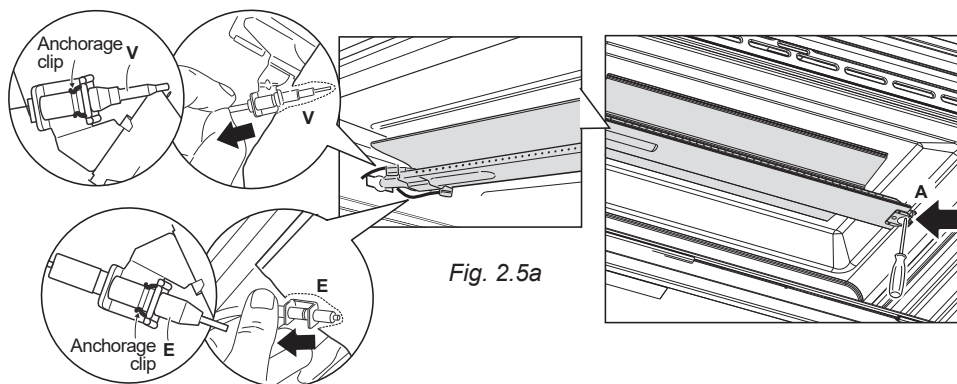

Fig. 2.5a
- Gently unlock, from the burner, the safety valve probe “V” and the ignition electrode “E” (as indicated in fig. 2.5a). Take care not to damage the probe and the ignition electrode.
- Unscrew and remove the burner securing screw “A” (fig. 2.5a).
**IMPORTANT:** Pay special attention to replace correctly the safety valve probe “V” and the ignition electrode “E” as per figure 2.5a. Check the correct operation of the safety valve and the ignition electrode.